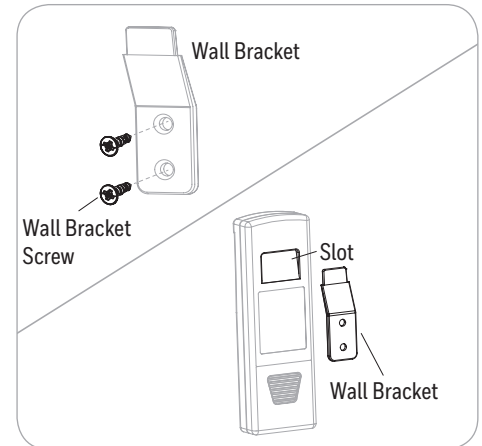

Figure 2.18
18. (Optional) If you wish to install the wall bracket for the remote, insert the two screws through the wall bracket and into the wall. Once the wall bracket is installed, hang the slot in the back of the remote over the top of the wall bracket (Figure 2.18). Turn on power to fan at breaker box and the wall switch. Assembly is complete.